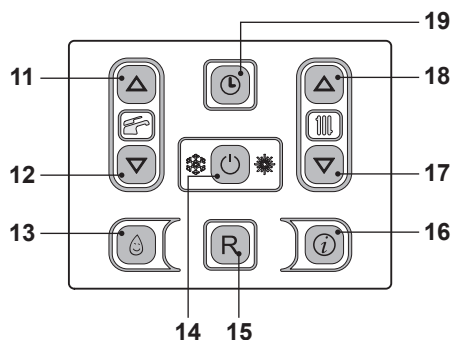
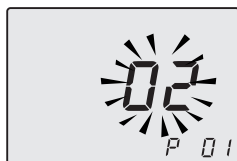
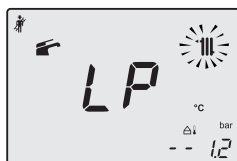

Fig. 9.20
Fig. 9.21
Fig. 9.22
- Enter in "programming mode" by pressing keys 14 - 17 - 18 (Fig. 9.20) for 10 seconds at the same time until the letters **P01** are displayed on the LCD display, indicating that "parameter 01" (Fig. 9.21) has been activated.
- Press keys 17 and 18 (Fig. 9.20) at the same time until the LCD display displays the letters **LP** that alternate with the heating water temperature value (e.g. **45**), indicating the activation of the "chimney sweep function" at minimum output (Fig. 9.22).
- By pressing 18 (Fig. 9.20) it is possible to change power in chimney sweep mode: with the letters **hP** on the LCD display which alternate between the heated water temperature (i.e. **32**), we are in the "chimney sweep function" at the minimum power during heating (Fig. 9.23).
- Press keys 14 - 17 - 18 (Fig. 9.20) at the same time again to exit the "chimney sweep mode" and return to the previously set boiler status (Fig. 9.26).